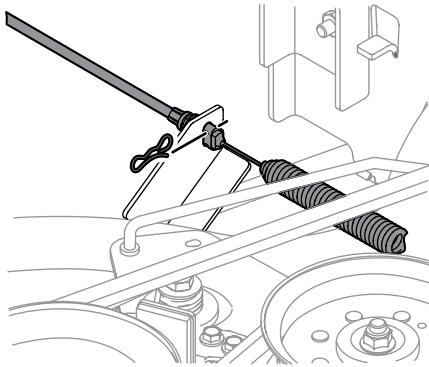

Figure 4-15
10. Carefully remove the PTO cable from the rear of the cutting deck by removing the bow-tie clip which secures it. Remove the spring from the deck idler bracket. See Figure 4-15.